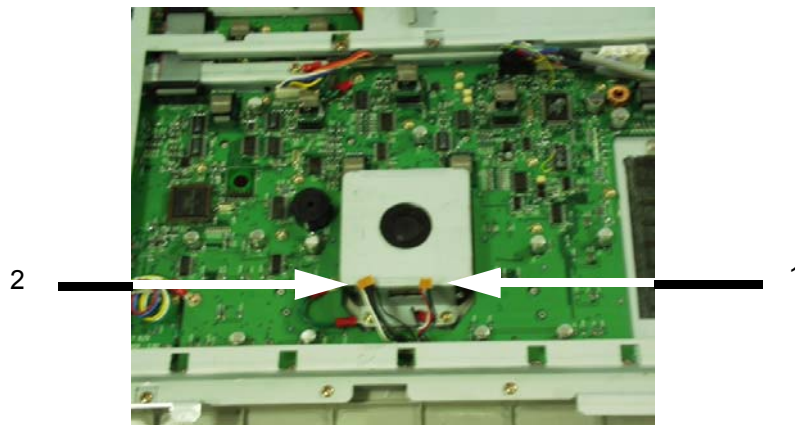

Figure 8-37 Disconnect two connectors
- 1.) Disconnect two connectors (1-2) from the Trackball Assy. Refer to section Figure 8-37 on page 26.